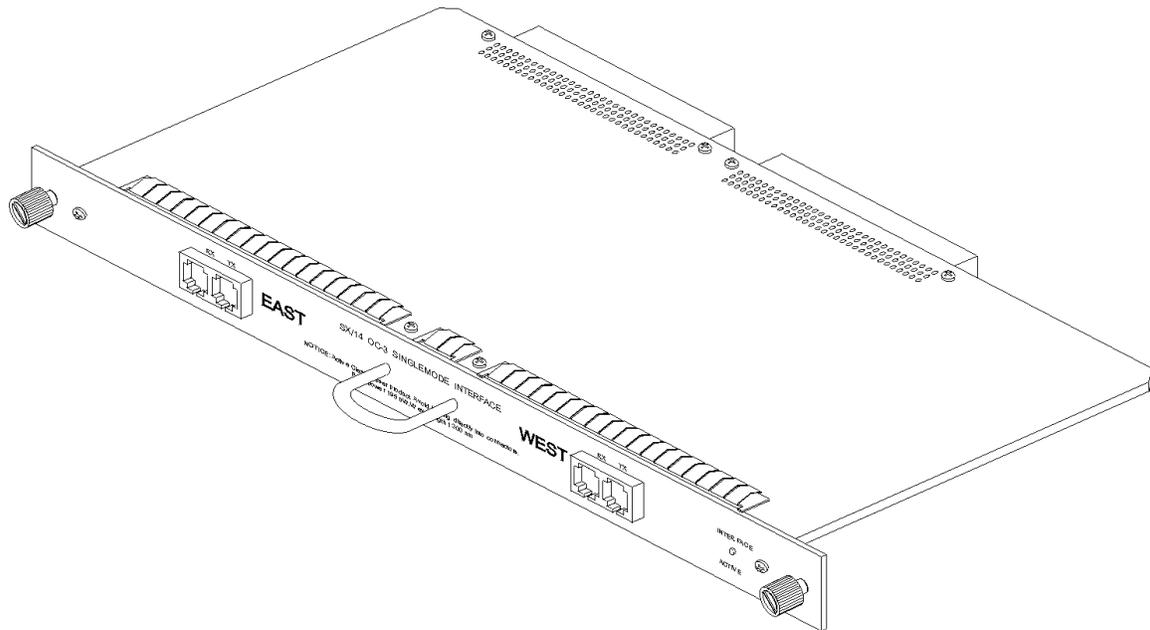

Figure 3.3 SONET OC-3 (155.52 Mbps) SM Interface
The SONET OC-3 (155.52 Mbps) Single Mode (SM) interface provides signal conversion between the SX/14's internal format and signals complying with Bellcore, ITU, and ANSI specifications for the 155.52 Mbps SONET OC-3 format. The interface provides East and West dual coupler, optical subscription channel (SC) to receive and transmit data (see Figure 3.3). Use this interface in conjunction with single-mode optical fiber; use the SONET OC-3 Multimode (MM) interface with multi-mode optical fiber.